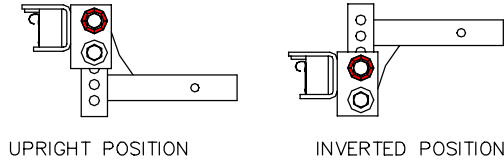

FIGURE 3
- Insert shank (1) into receiver and install pin (6b) and clip (6c) [See figure 1]. Shank (1) may be inserted in the upright or inverted position depending on uncoupled ball height [See figure 3].
- Select hitch ball to match trailer coupler socket, having 1" or 1 - 1/4" threaded shank and capacity equal to or exceeding the gross trailer weight. When using a ball with a 1" shank, bushing (6a) must be used. Attach the ball to the head assembly (2) using a **lockwasher** and nut.